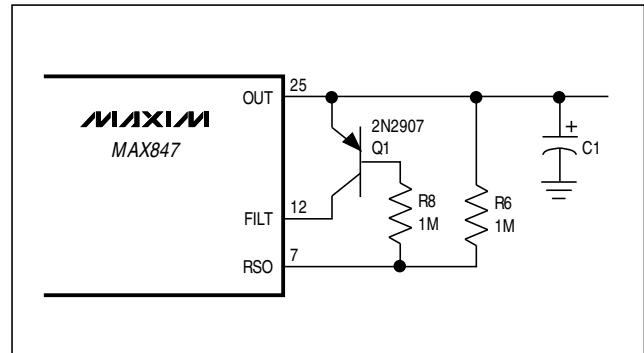

Figure 3. Add PNP to allow start-up in Run Mode before the SYNC input clock is active.
- 3) If the SYNC clock is used, the connection shown in Figure 3 is added, and the SYNC clock is present when RSO is cleared (logic high).
| On initial power-up, system can supply SYNC clock to MAX847 before, or concurrent with, RSO going high. | Add Q1 as shown in Figure 3 | Can start in either Coast or Run Mode by tying RUN pin appropriately. In Run Mode the DC-DC converter operates at $7f_{\text{SYNC}}$ once the SYNC clock is applied. |